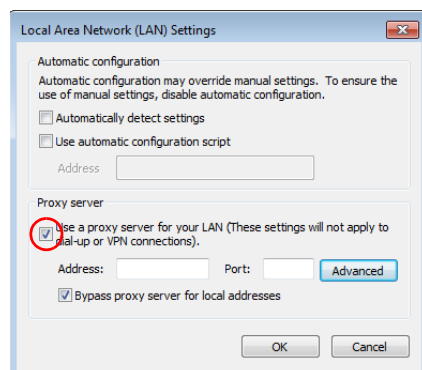

FIG. 126 Local Area Network (LAN) Settings dialog
2. Click **LAN Settings**. The *Local Area Network (LAN) Settings* dialog opens. If the Proxy server box is checked, go to Step 4. If the Proxy server box is not checked, check it before going to Step 4 (FIG. 126):